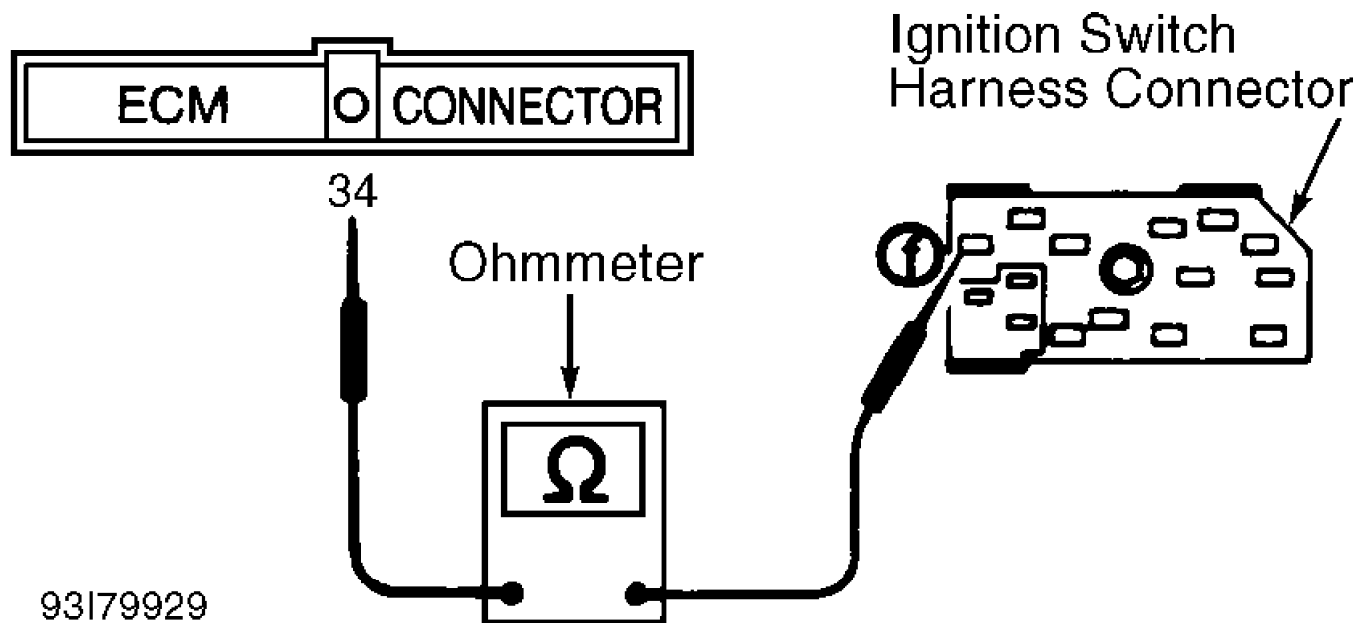

Fig. 21: Testing Start Signal (Quest)
2) Turn ignition off. Disconnect ECM harness connector. Check continuity between ECM harness connector terminal No. 34 (Blue/Black wire) and ignition switch harness connector terminal "f" (Red/Green wire). See Fig. 21.